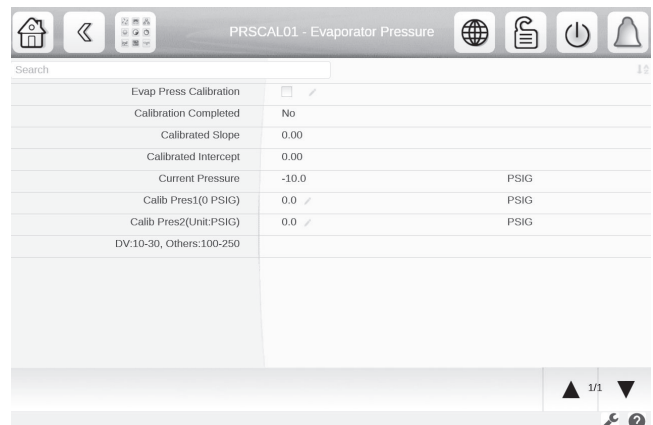

Fig. 61 — Evap Pressure Sensor Screen
2. Each transducer is supplied with 5 vdc from the IOB. Calibration is done by selecting the appropriate Pressure Sensor option on the Pressure Sensor Calib screen. The screen for the selected option is displayed. Figure 61 shows the Evap Pressure Sensor screen (PRSCAL01 as an example).